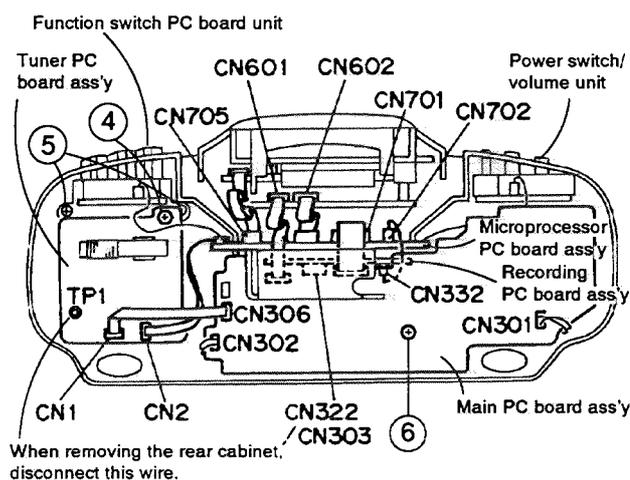

Fig. 2-3
- 1) Remove the two screws ① fixing the CD section.
- 2) Remove the eight screws ② fixing the rear cabinet and handle.
- 3) Slightly open the rear cover, then remove the antenna wire from TP1 on the tuner PC board. (see Figure 2-3)
(see Figure 2-3)